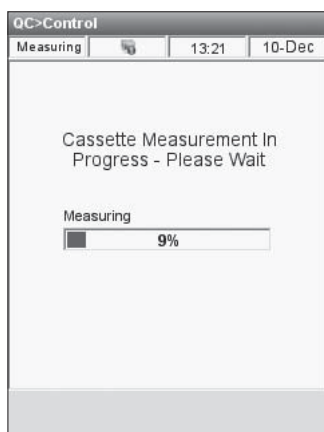

Fig. 4-22 QC Measurement
- The QC sample is aspirated into the cassette, and then measurement starts (Fig. 4-22). At this time the status light begins flashing green indicating that the cover should not be opened.